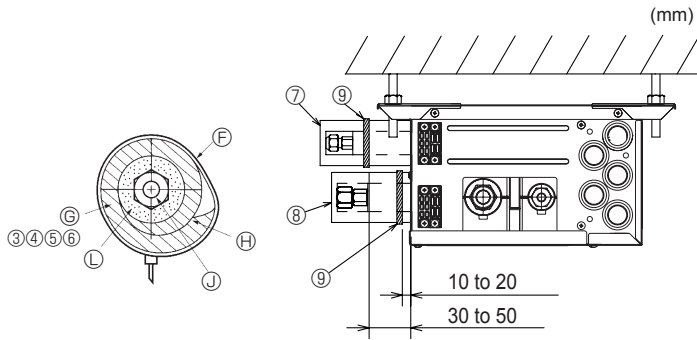
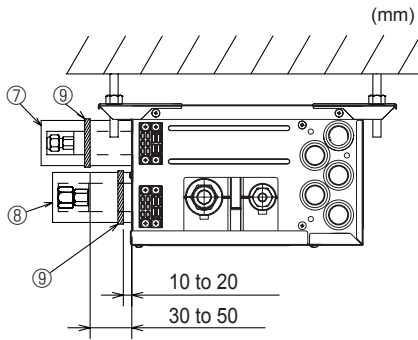

Fig. 7-3
Fig. 7-4
- (3) Connect the refrigerant piping immediately. Always tighten the flared nuts to the torque specified in the table 2 using a torque wrench and double spanner.
- (4) Press the pipe covers ③ and ⑤ on the liquid piping against the unit and wrap to hold in place. (Fig. 7-3)
- (5) Press the pipe covers ④ and ⑥ on the gas piping against the unit and wrap to hold in place. (Fig. 7-3)
- (6) Apply the supplied bands ⑨ at a position 10 - 20 mm from each end of the pipe covers (③④⑤⑥).
- (7) If the indoor unit is not connected, fit the supplied pipe covers (with caps, ⑦ and ⑧) to the branch box refrigerant piping connections against the unit to prevent condensation dripping from the pipes. (Fig. 7-4)
- (8) Clamp the pipe covers (⑦⑧) in place with the supplied bands ⑨.
- ⓑ Band ⑨
- ⓐ Pipe covers ③④⑤⑥
► Use the following procedures for indoor connection part which indoor unit is not connected. (Fig. 7-4)
- (1) In order to prevent refrigerant leaks, make sure that the flare nuts are tightened according to the specified torques* in Table 3.
- (2) In order to prevent condensation, install the pipe covers ⑦ ⑧ against the unit and fasten them with the supplied bands ⑨.